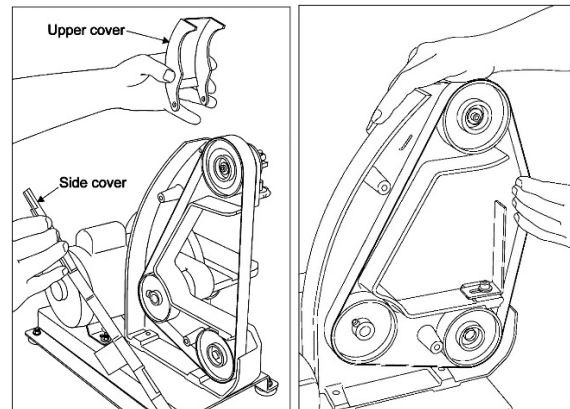

Figure 17:
2. Remove upper belt cover by removing screw and nut (see Figure 17). Remove two knobs from side cover. Remove side cover.